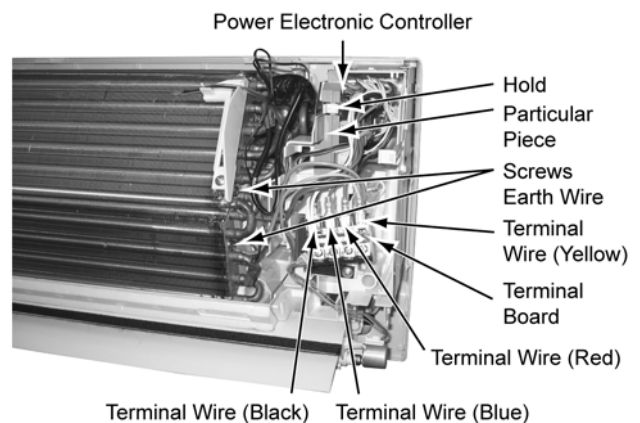

Fig. 6
- Release the 2 screws for the Earth wire. (Fig. 6)
- Pull out 4 terminal wires (Black, Blue, Red and Yellow) from the Terminal Board. (Fig. 6)
- Detach the Terminal Board from the Control Board. (Fig. 6)
- Press the Hold to the left side, remove the Particular Piece and slide out the Power Electronic Controller. (Fig. 6)